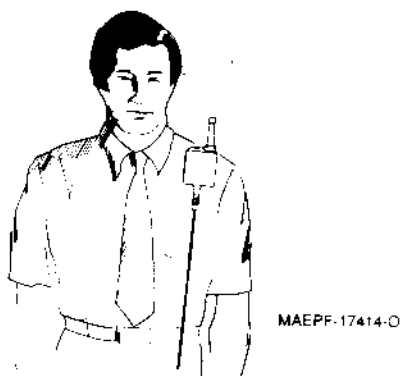

Figure 1.
A high/low volume switch, S2, allows the user to monitor the audio at a low volume level, then to immediately switch to the high volume level without resetting the volume control on the radio. This feature is especially useful when the radio is worn on the belt, and the speaker microphone is on the lapel or shoulder, as shown in Figure 1.
- Insert the tab on the microphone's accessory connector (part of item 1) into the slot in the radio's universal connector.
- Slide the accessory bracket (part of item 1) down over the radio's antenna bushing nut.
- Insert the button-head screw (item 32) into the threaded hole in the antenna bushing nut, and tighten it firmly (recommended torque is 10 in. lb.).
- The microphone will perform best if it is worn with the antenna above the shoulder as shown in Figure 1.